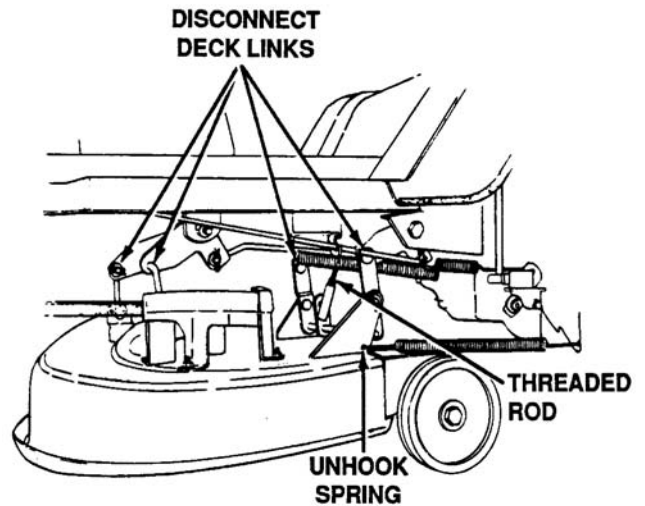

Figure 4-15. Location of Deck Links
- e. Disconnect the spring from the left rear deck bracket. See Figure 4-15.